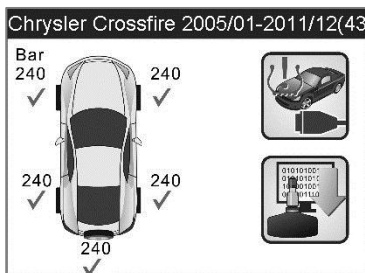

Figure 4-14 Sample Sensor Activation Screen
- An activation screen with the previously activated sensor information will show up (Figure 4-14). Use the **UP/DOWN** or **LEFT/RIGHT** scroll button to select the desired wheel, and press the **TEST** button to reactivate the sensor, or press the **Y** button to view all detailed sensor data (Figure 4-15).